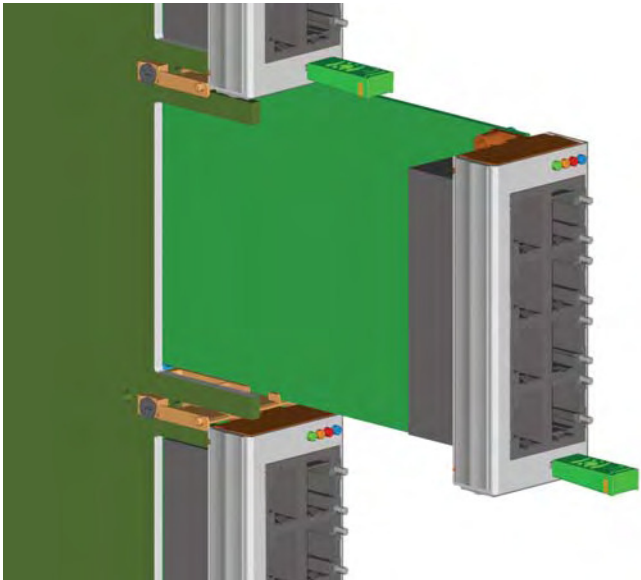

Figure 2
Full-Height Modules have an optional configuration called *Extended Full-Height Modules*. The Extended Full-Height Module is required to accommodate dual-row SFPs and dual-row RJ-45s. Extended Full-Height Modules cannot be stacked. See Figure 2.
- **Conventional Carrier options – notched bay:** In order to support Extended Full-Height Modules on a Conventional Carrier, it is necessary to notch out a portion of the carrier board for the target AdvancedMC bay (approximately 70mm of the AdvancedMC bay, starting from the faceplate). This creates the additional height needed for these modules. See Figure 2.